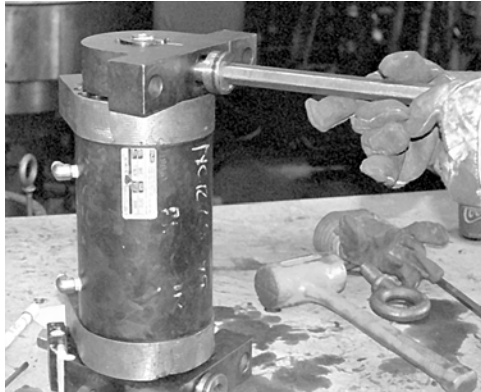

Figure 5-11. Removal of Lower Seal Sub
9. Unscrew the lower seal sub from the torque bracket. Replace the O-ring and T-seal if damaged (see Figure 5-11).